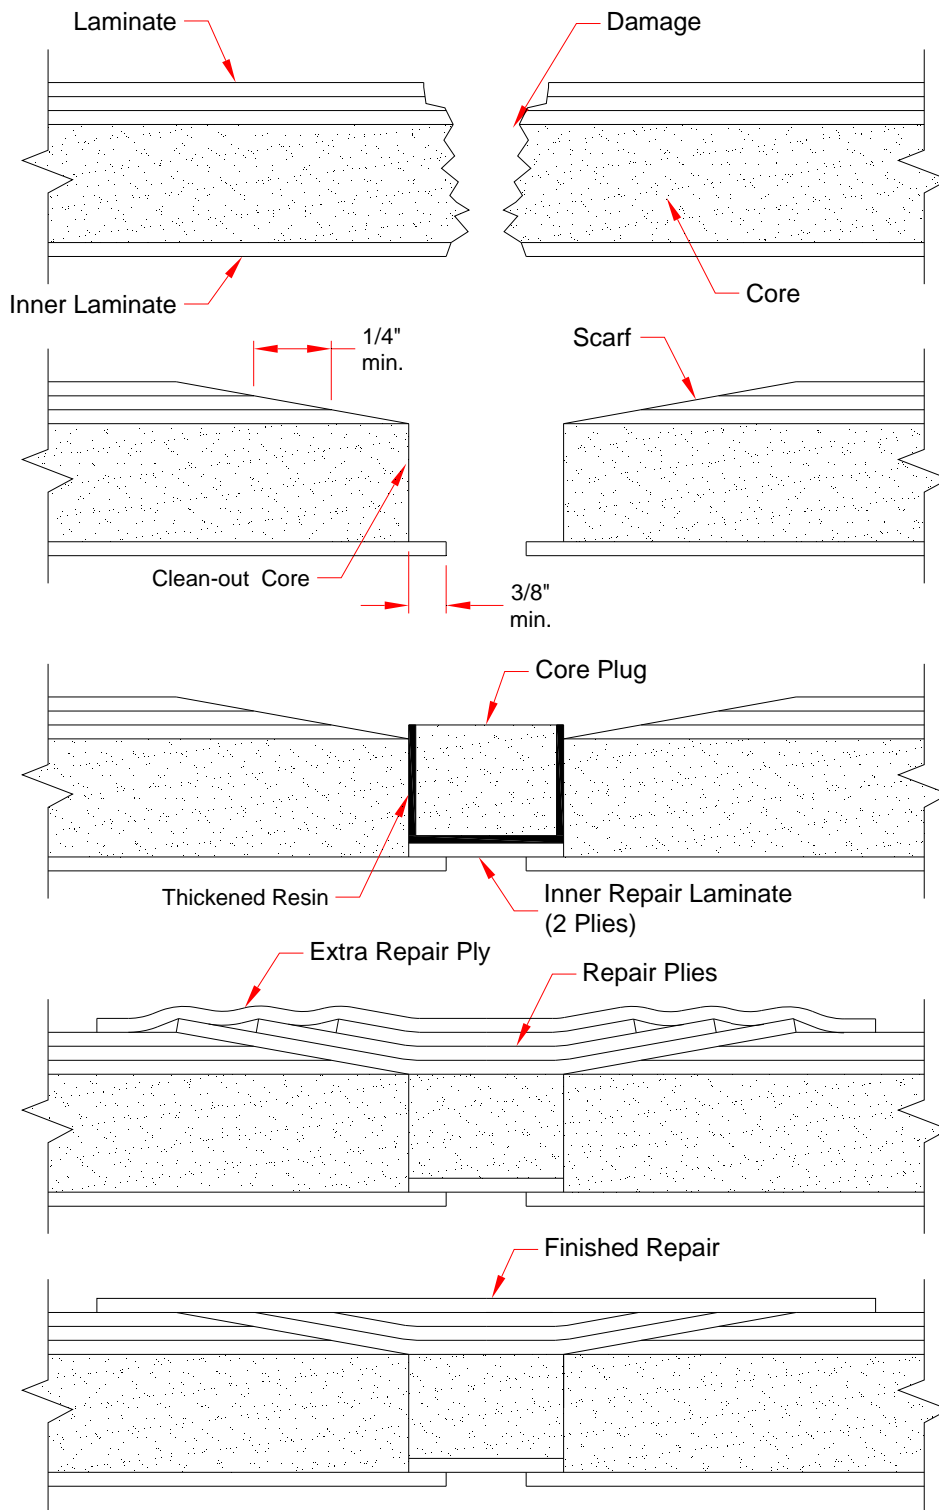

Figure 51-20-05 Sandwich Structure Repair
- Step 3. Clean-out inner laminate. Refer to Figure 51-20-05.
- Step 5. Scarf the edges of laminate with a grinding disk or block. Refer to Figure 51-20-05 for scarf size.